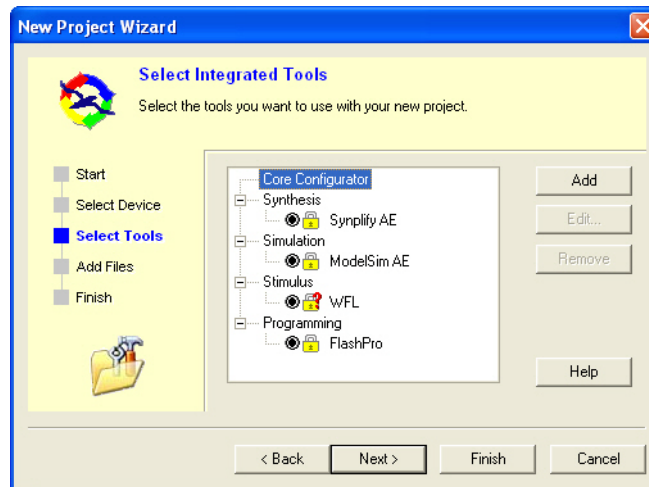

Figure 1-4 • Select Integrated Tools in the New Project Wizard
5. Select the tools you wish to use in the Libero IDE (Figure 1-4). If the Libero IDE cannot locate a tool it displays a '?'. If necessary, click the tool and click the **Edit** button to update the tool profile. Click **Next** to proceed.